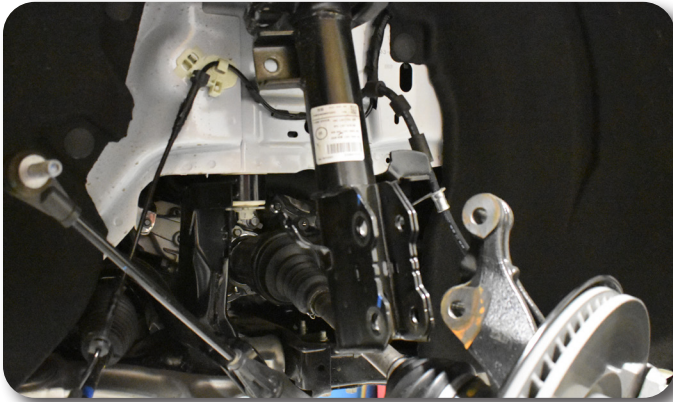

Figure 7A
11. Once your ABS line, brake line and knuckle are disconnected from the bottom of the strut support the weight of the strut while you remove the 3 upper strut mounting bolts from under the hood. Figure 7A/7B. DO NOT remove the center strut rod nut.